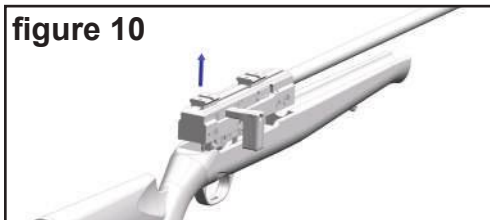

figure 10
4. Remove the system screws. You can now take out the system from the stock (figure 10).